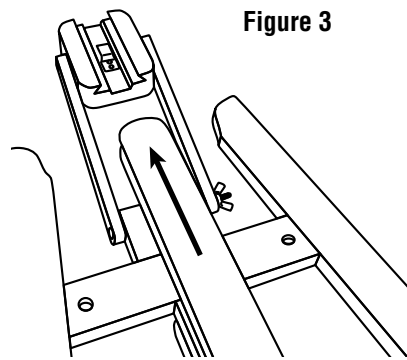
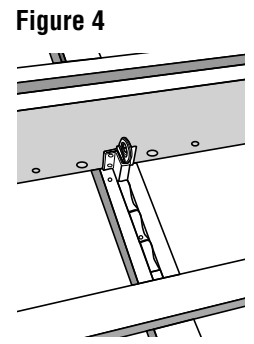

Figure 3
Figure 4
- 4** Carefully slide canvas support assembly from below into slot at top of main easel frame, as shown in Figure 3. Slide far enough up to expose three or four steps in the brass track, as shown in Figure 4.